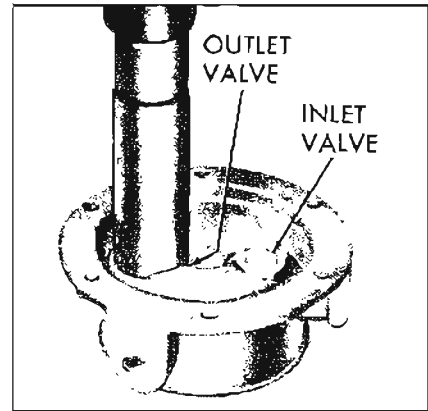

Figure 3-23—Installing Valves in Fuel Cover
3. Place a new gasket in each valve seat in fuel cover. Place valve in seat nearest "IN" connector with spring cage facing up. Place other valve in outlet valve seat with spring cage down. See Figure 3-23.